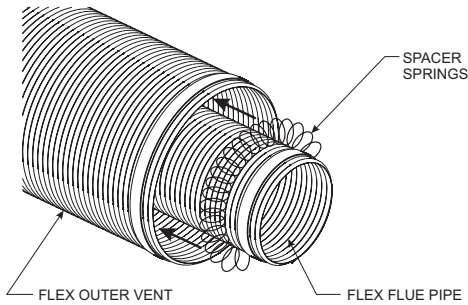
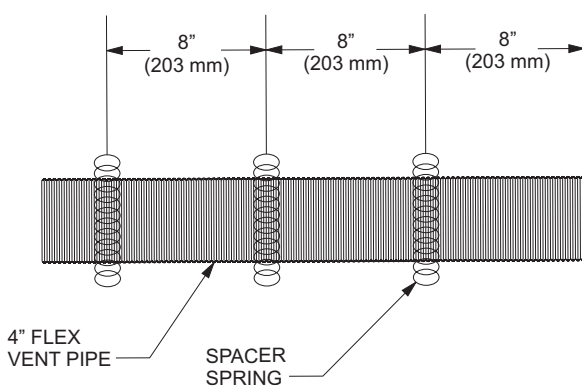

Figure 45
Figure 46
2. Check to see that the vent spacer springs are located around the flue vent at 8" and 12" intervals along its length. See Figure 45. If not, stretch the spacer springs to about 15" long and wrap them around the flue, then interlock the ends of each spring about 2". See Figure 46. Maintain equal distance between spring spacers.